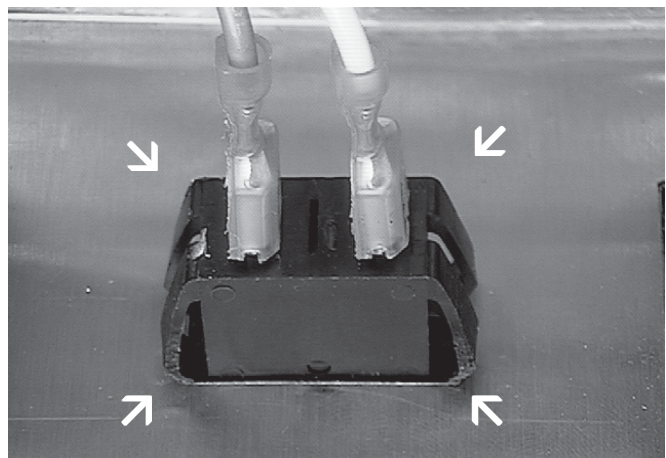

Figure 26. Light Bulb Replacement
3. Squeeze the four plastic retainers together and push out through the hole. Figure 26.